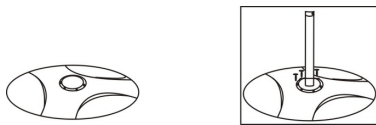

Fig.1
3. Attach the down tube to the base using the included 4 M6×30 screws (figure 1).